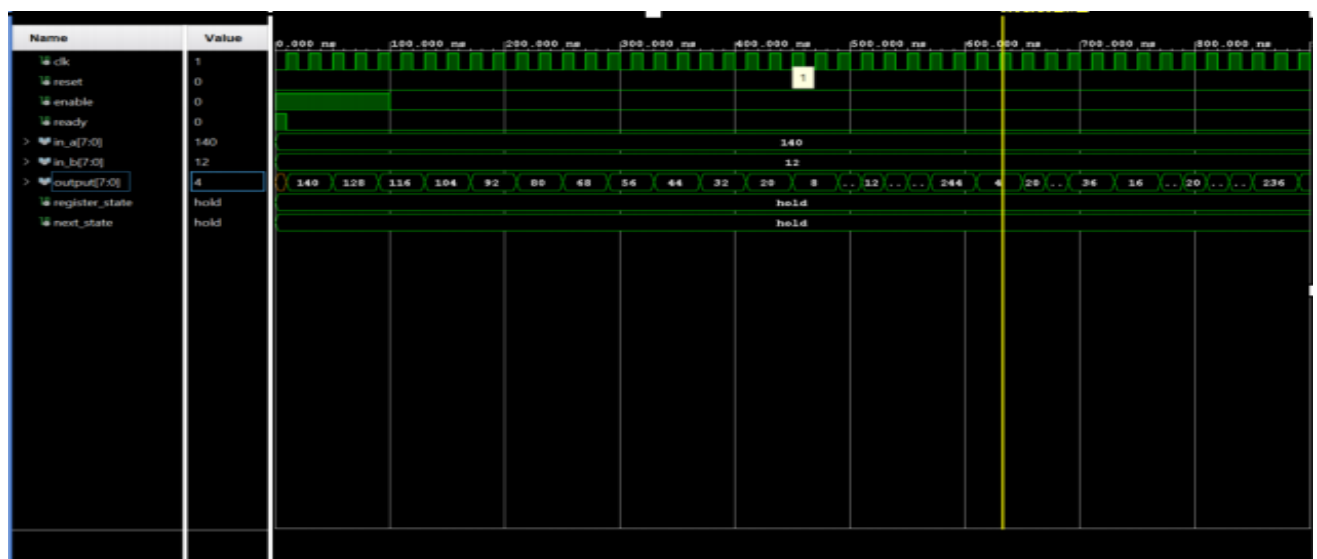

Figure 1.1 ( Test bench is tested for the inputs first input "10001100" and second input "00001100". The enable is asserted between 0ns and 100ns.)
The test bench is created to determine the Greatest Common Divisor (GCD) of the given inputs: in\_x = "10001100" (140) and in\_y = "00001100" (12). The "initiate" signal is activated between 0ns and 100ns. The test bench produces an output result of "00000100" (4). The simulation outcome (Figure 1.1) and the rtl schmetaic(Figure 1.2) are presented in the figures below.